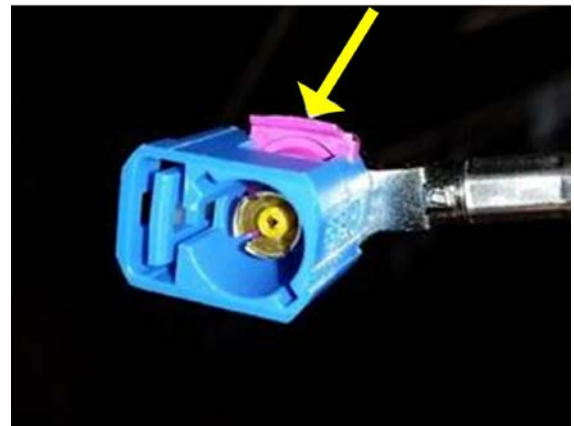

Figure 4. FAKRA connector lock
6. Inspect the connector locking tab for damage (Figure 4). If damage is found, replace only the connector housing for the damaged end of the coax cable.